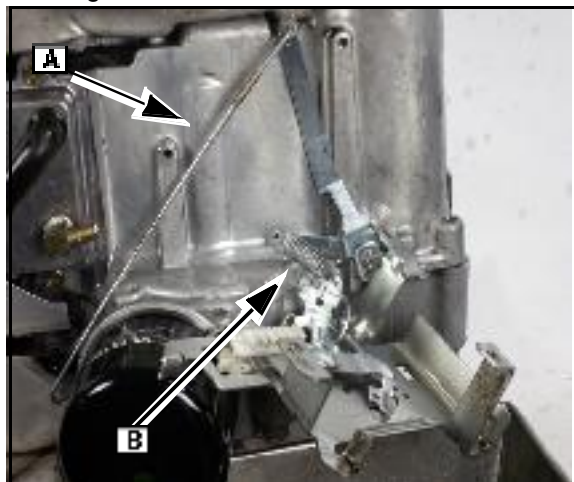

Fig. 16
2. Disconnect the governor return spring ([A] Fig. 16) and the throttle link ([B] Fig. 16) from the governor lever.